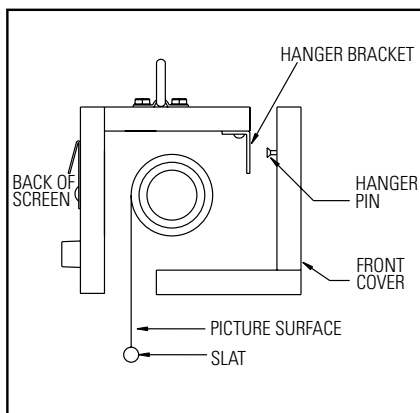

FIGURE 1
3. Remove the front cover of the screen from the back of the screen. Lift front cover up approximately 1/2" and pull away from back of screen. See Figure 1.
Remove the front cover of the screen from the back of the screen. Lift front cover up approximately 1/2" and pull away from back of screen. See Figure 1.